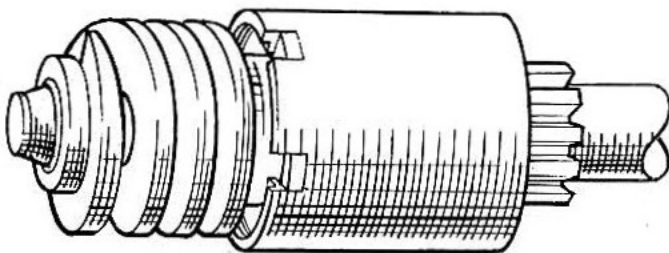

Fig. 11 Drive Assembled
Remove the circlip from the shaft nut at the end of the starter drive by means of a suitable press (see Fig. 11). Hold the squared starter shaft extension at the commutator end by means of a spanner and unscrew the shaft nut (B).